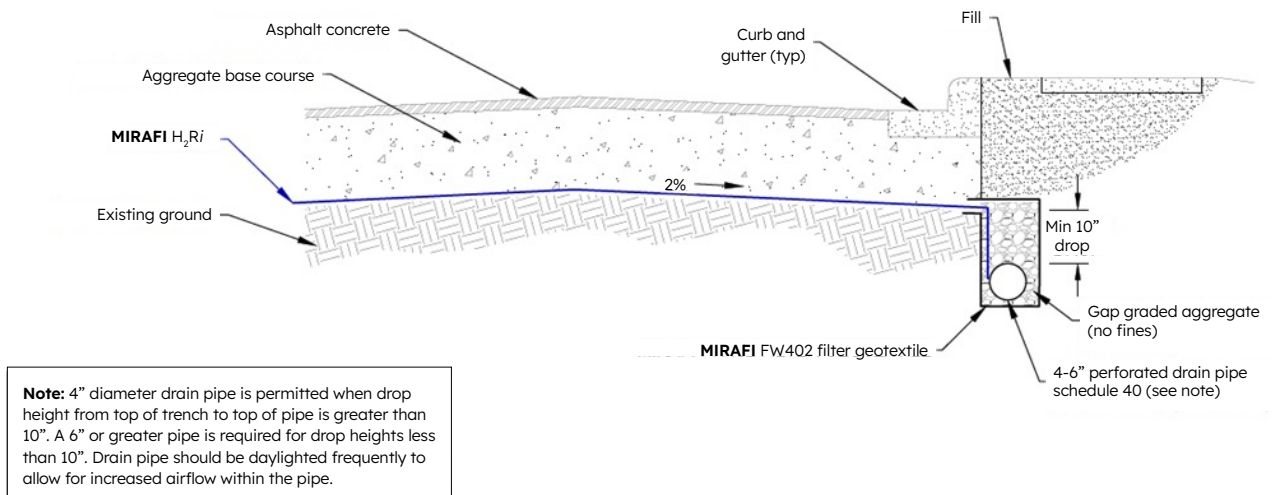

Figure 10: Geotextile into edge drain detail
4. **Edge drain** – Best for designs with existing curb and gutter, or where the shoulder elevation is flat, edge drains are required to daylight water. In this approach the **MIRAFI H₂Ri** is terminated into a traditional trench drain with a perforated pipe (Image 12, Figure 10). A minimum 4 in (100 mm) diameter HDPE perforated drain pipe is recommended for use in these applications. A vertical drop of 10 in (250 mm) between the elevation of the geotextile and the top of pipe is recommended to initiate a siphon effect in the drainage channels, as shown in Figure 10 and Image 12. This amount of vertical gradient inhibits inward wicking back into the cross section, as the estimated maximum uphill moisture movement capability of **MIRAFI H₂Ri** is approximately 8 in (200 mm).